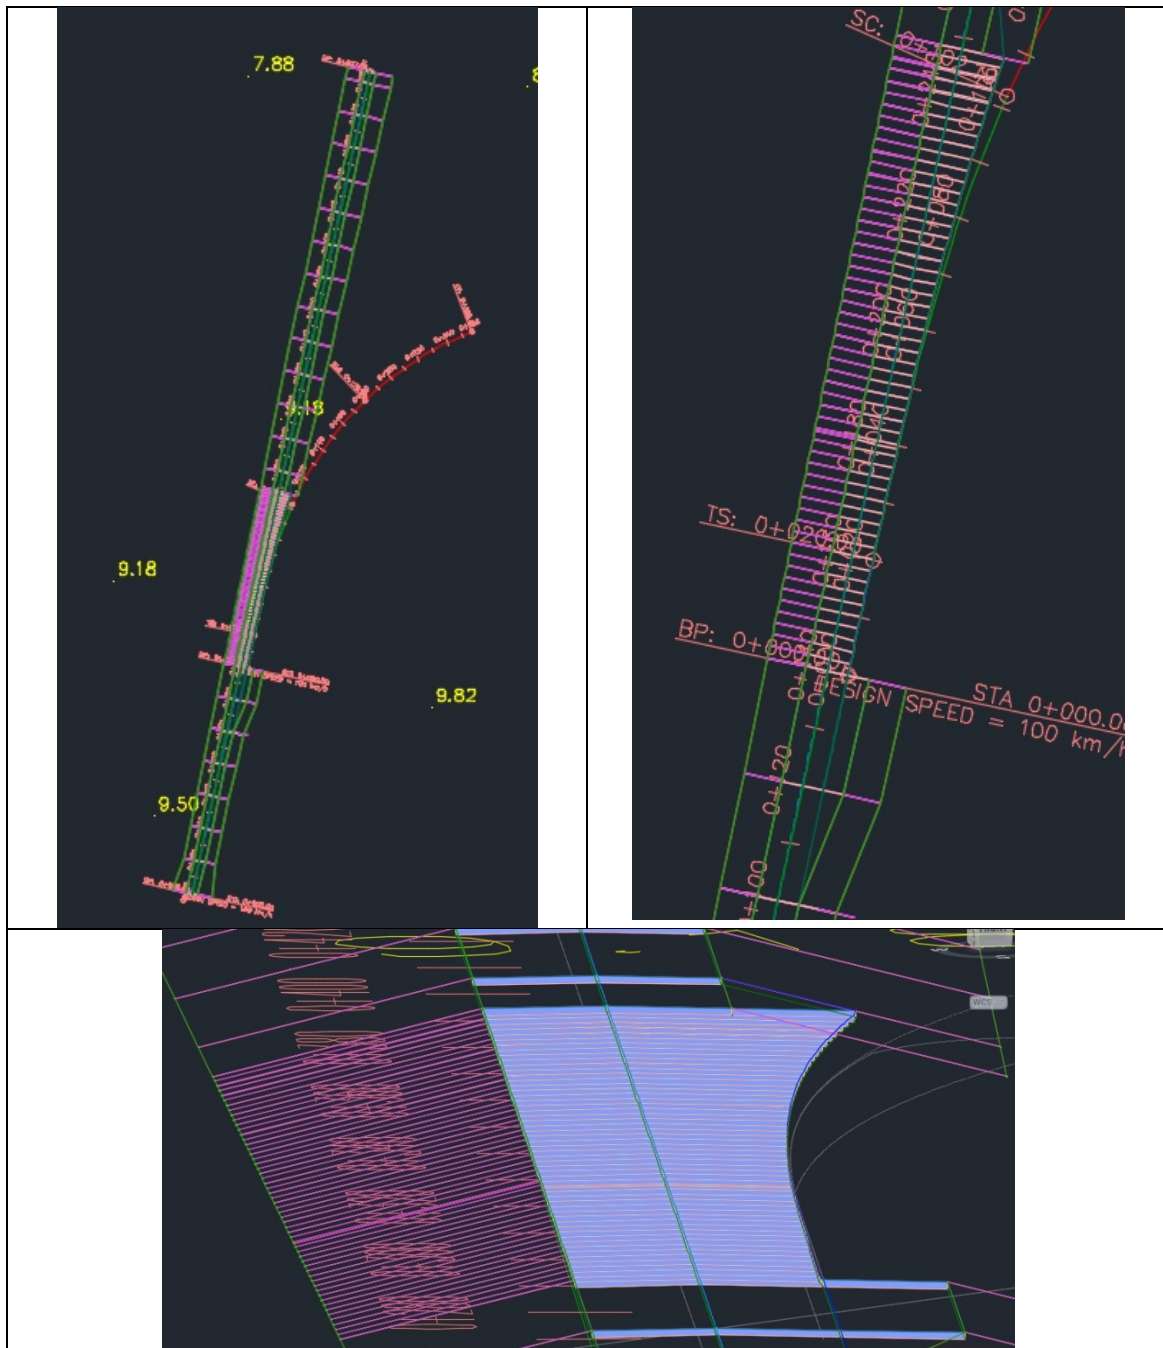

Fig. 7. CORR1 redefined.
- Now rebuild the corridor CORR1. It will look like the one shown in fig. 7. Almost the first half of our work is done.